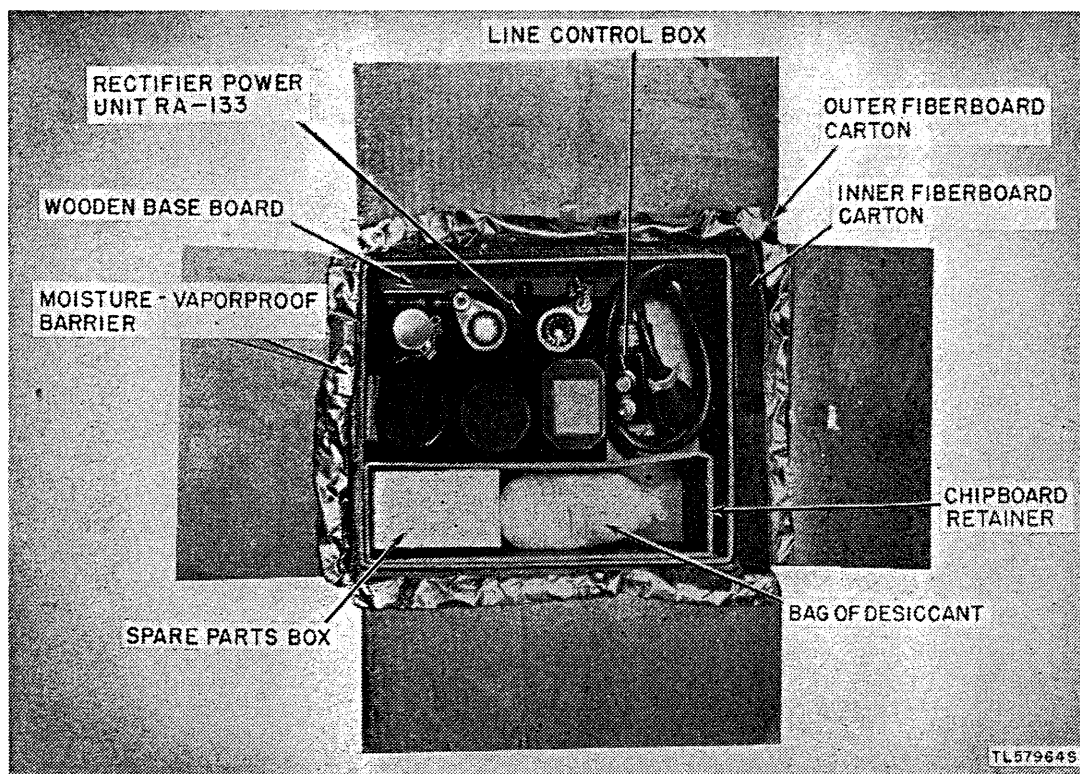

Figure 4. Domestic packaging of Rectifier Power Unit RA-133.
3. PACKAGING DATA. The container-barrier-container method of packing is used in preparing Rectifier Power Unit RA-133 for domestic shipment. The power unit, which is mounted on a wooden baseboard, and the spare parts box are contained within a corrugated fiberboard carton which is protected by a moisture-vaporproof barrier and an outer corrugated fiberboard container (fig. 4). The inner carton is subdivided by chipboard walls which separate the power unit from the spare parts box and the bag of desiccant. The outer dimensions of the carton are 10 by $8\frac{3}{4}$ by $6\frac{2}{3}$ inches and the packaged unit weighs approximately 12 pounds.